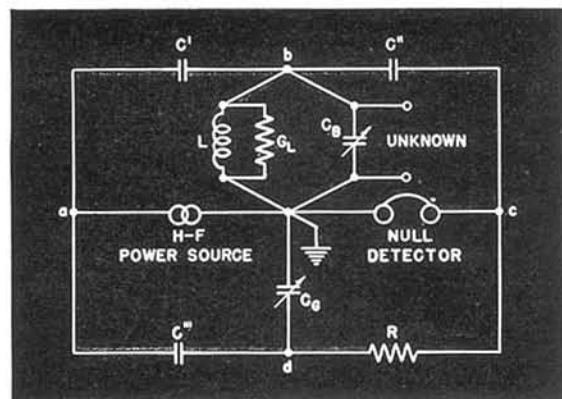

FIGURE 2. Parallel-T circuit for measuring impedance at radio frequencies.
**T-Networks:** In addition to the bridge circuits described above there are a number of other networks which can be adjusted to give zero transmission for a particular configuration of circuit elements. One of these, the Twin-T or Parallel-T illustrated in Figure 2, has proved to be of great value for impedance measurements at high radio frequencies. This circuit is used in the TYPE 821 for impedance measurements from 0.5 to 40 megacycles.
**Resistive Balance:** All impedances have resistive components, and the bridges used for impedance measurement must be capable of measuring this resistance in some manner. Three methods are in general use: (1) series resistance, in which the balancing resistor is placed in series with the standard reactance; (2) parallel resistance, in which the balancing resistor is placed in parallel with the standard reactance; and (3) the Schering bridge in which a balancing capacitor is placed in parallel with the ratio arm opposite the unknown capacitor. The series resistance method is used in the TYPES 650, 740, 1611, and 667, while the TYPE 716 uses the Schering circuit for balancing the resistive component of impedance in terms of the dissipation factor. The TYPE 916 uses a new circuit in a series-substitution method with a fixed capacitor in the *N*-arm for reactance measurement. This arrangement makes possible the calibration of the capacitor across the *A*-arm in terms of the series resistance of the unknown, independent of frequency. The TYPES 716 and 650 are so constructed that the parallel resistance method can also be used.